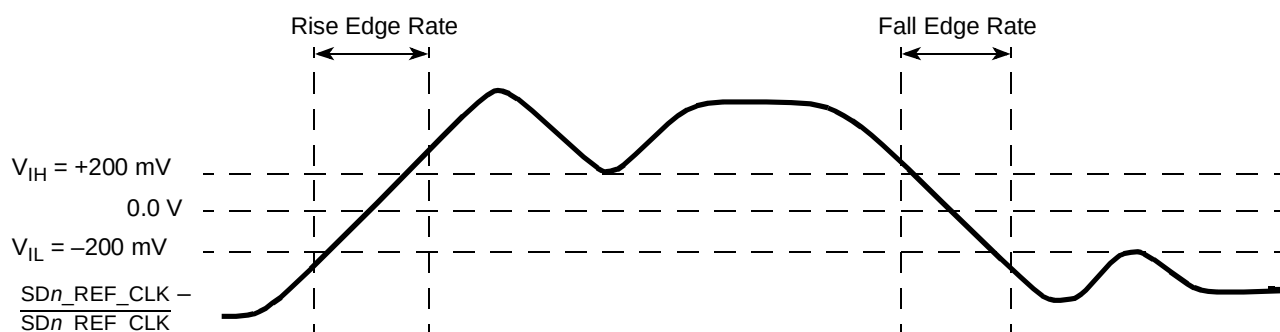

Figure 50. Differential Measurement Points for Rise and Fall Time
- Measured from -200 mV to +200 mV on the differential waveform (derived from SD_n_REF_CLK minus SD_n_REF_CLK). The signal must be monotonic through the measurement region for rise and fall time. The 400 mV measurement window is centered on the differential zero crossing. See Figure 50.